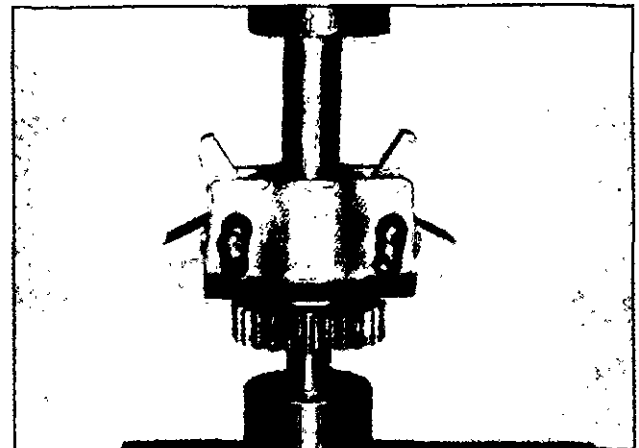
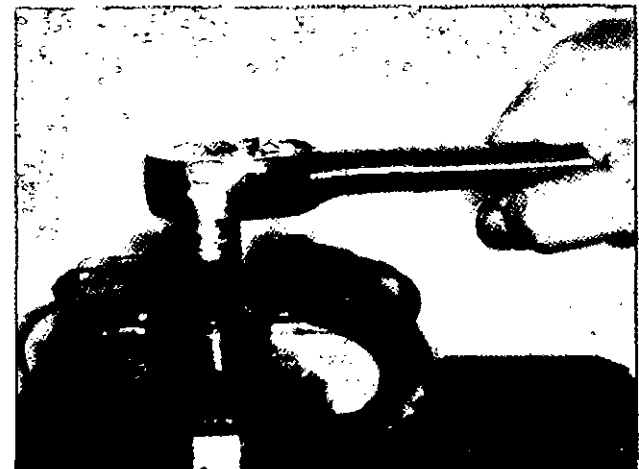

Fig. 3-17, (F5280). Install the governor weights on the shaft.
Fig. 3-18, (F5283). Install the locknut on the shaft.
4. Press against the inner race of the ball bearing to assemble it on the shaft, Fig. 3-17. Hold the assembly together with a new locknut, Fig. 3-18.